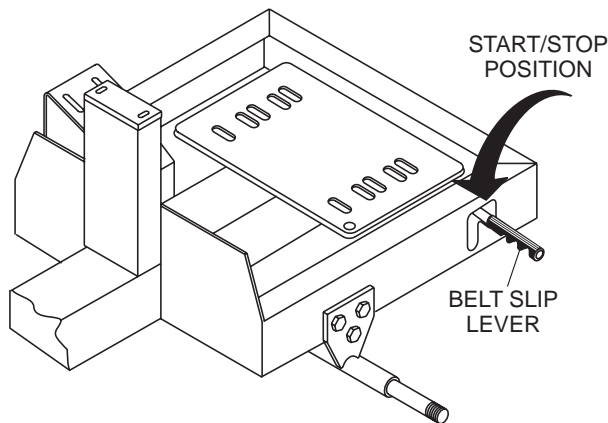

Figure 19. Belt Slip Lever (Start/Stop Position)
- Place the belt slip lever (Figure 19) in the START/STOP (disengaged) position.
1. Place the belt slip lever in the start/stop position (Figure 19).